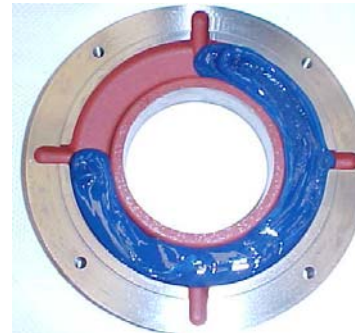

Figure 7.5: Outer bearing cap
- Fill up to ¾ of the inner and outer bearing cap deposits with the recommended grease (Figure 7.5) and lubricate the rolling bearing with enough grease before assembling it;
When the bearing is opened, inject the new grease through the grease nipple to expel the old grease found in the grease inlet tube, and apply the new grease in the rolling bearing, to the inner and outer rings, filling 3/4 of the empty spaces, as shown in Figure 7.5. In case of double bearings (ball bearing + roller bearing), also fill 3/4 of the empty spaces between the intermediate rings; Never clean the rolling bearing with cotton-based cloths, because they leave some lint, working as solid particles.